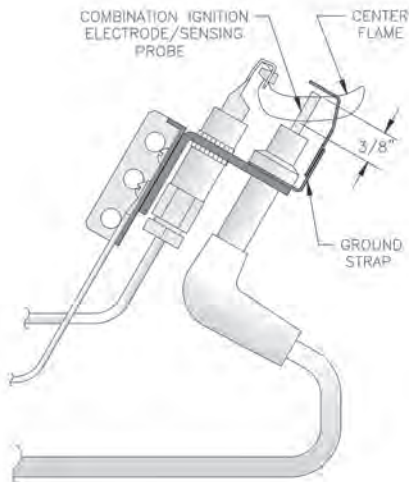

Figure 11: Pilot Burner Flame, Intermittent Ignition System (EI), Honeywell Q348 Pilot
- c. Intermittent Ignition (EI), Models _IN3_ _I through _IN12_ _I. See Figure 11. The pilot burner produces three (3) flames. The center flame should be steady, medium hard blue enveloping 3/8 to 1/2 inch of sensing probe. If flames are yellow and lazy, follow instructions TO TURN OFF GAS TO APPLIANCE (see Figure 6 for Models _IN3_ _I through _IN11_ _I or Figure 7 for Model _IN12_ _I) and contact a qualified service agency.